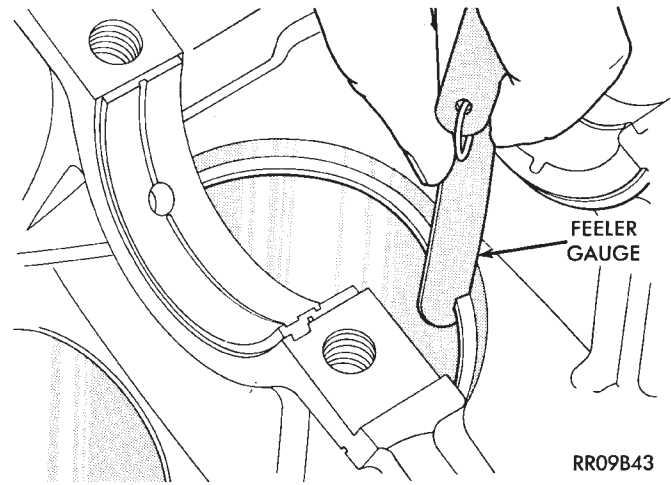

Fig. 7 Check Gap on Piston Rings
- (1) Wipe cylinder bore clean. Insert ring and push down with piston to ensure it is square in bore. The ring gap measurement must be made with the ring positioning at least 16mm (0.63 inch) from bottom of cylinder bore. Check gap with feeler gauge (Fig. 7). Refer to (Fig. 8) for specification.